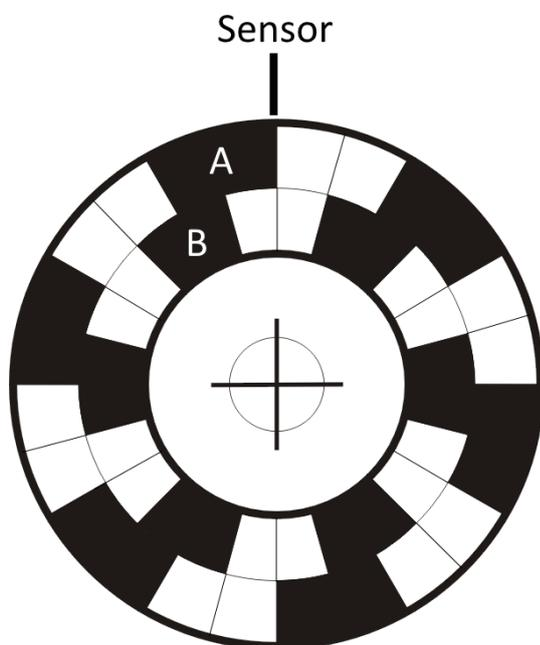
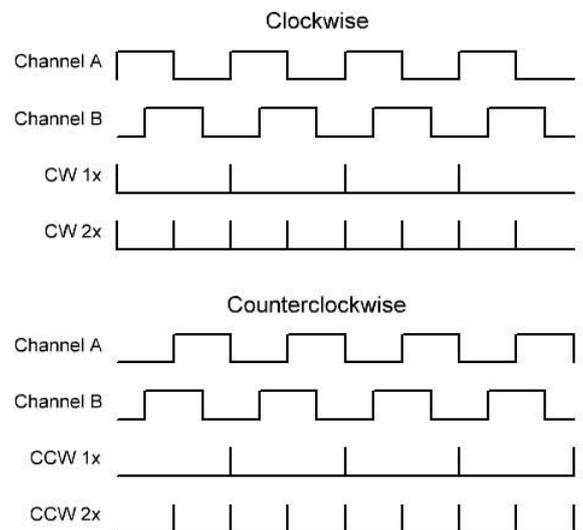

Figure 1. Quadrature Encoder
Figure 2. Quadrature signals
This app note will explain how to create an Unlocked Quadrature Decoder with a GreenPAK4 device. Quadrature Decoders translate signals received from Quadrature Encoders similar to the one shown in Figure 1. They are used in a mechanical system to determine rotation around an axis.
Quadrature decoders generate two square waves, which are typically designated as Channel A and Channel B. These signals have a 90 degree phase difference as shown in Figure 2. The state transition outputs, or the rising and falling edges of Channel A, can be used to determine the degree of dial rotation or number of steps moved. In this application, there are two possible units of measurement: 1x and 2x.
Take a look back at Figure 1. When Channel A's rising edge leads Channel B, the rotation around the axis is in the clockwise direction. Alternately, when Channel B leads Channel A, the rotation occurs in the counterclockwise direction. In Figure 2, if you count the number of rising edges on Channel A in the clockwise direction, you can conclude that the axis moved by 4 steps. However, if you count both rising and falling edges of Channel A, the axis moved by 8 steps. The further the mechanical dial turns, the more pulses are generated.
In this App Note we will design a system that receives three inputs and has two outputs. The first two inputs are the Channel A and Channel B quadrature signals, while the third input is a selector bit to control whether the outputs will be 1x or 2x as shown in Figure 2. One output indicates clockwise movement (CW) and the other counterclockwise movement (CCW).